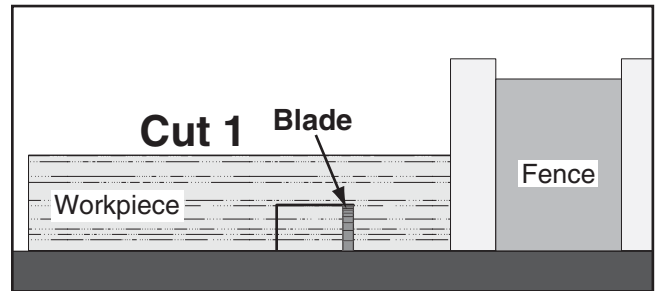

Figure 88. First cut for a single-blade dado.
6. Align the blade to cut one of the dado sides, as shown in **Figure 88**.